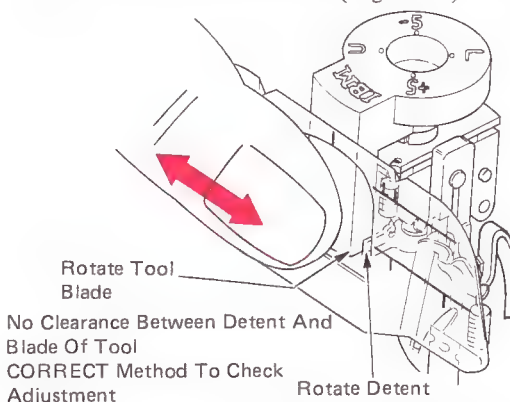

Figure 29 – No Clearance Between Blade And Detent
1. No clearance exists between the blade of the rotate tool and the rotate detent (Figure 29).